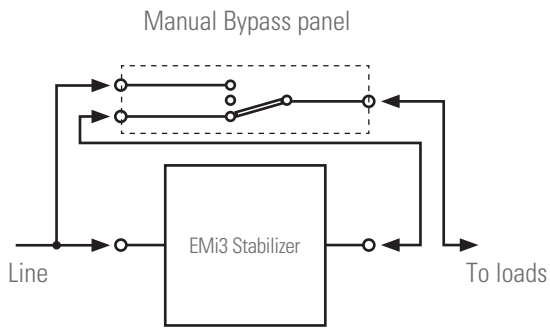
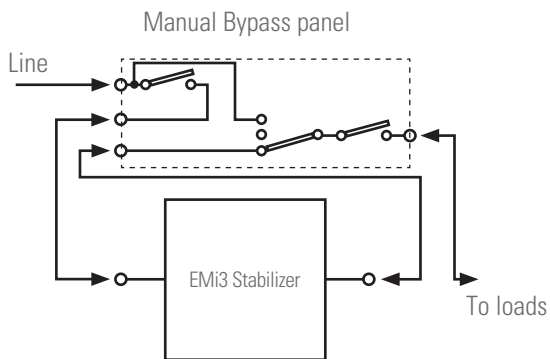
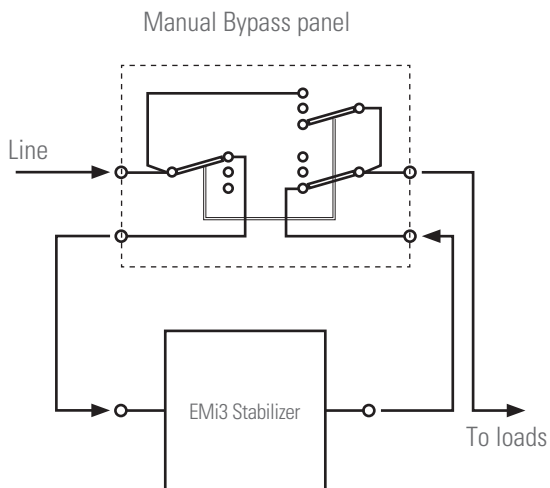

Fig. 15. Connection of the stabilizer with a manual Bypass Panel with single cam switch.
Fig. 16. Connection of the stabilizer with a manual Bypass Panel with single cam switch and protections.
Fig. 17. Connection of the stabilizer with a manual Bypass Panel with double cam switch.
- Connections between the Bypass panel and power supply, stabilizer and loads will depend on the type of the cam switch and protections: single (see Fig. 15), if protections switches are available (see Fig. 16) or double (see Fig. 17).